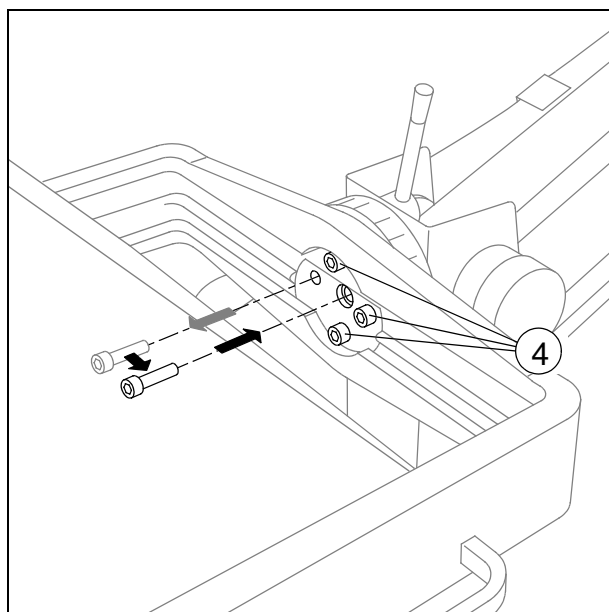

Fig. 3
- Take out one of the four mounting screws and insert it into the threaded hole and tighten it (arrow/Fig.3).
- Disconnect the single tank generator together with the bracket from the stand by removing the three remaining screws (4/Fig.3).
- Secure the three mounting screws (4/Fig.3) with Loctite 242 and tighten them.
- Remove the fourth mounting screw from the threaded hole (arrow/Fig.3) and reinstall it in its former position. Secure the screw with Loctite 242.